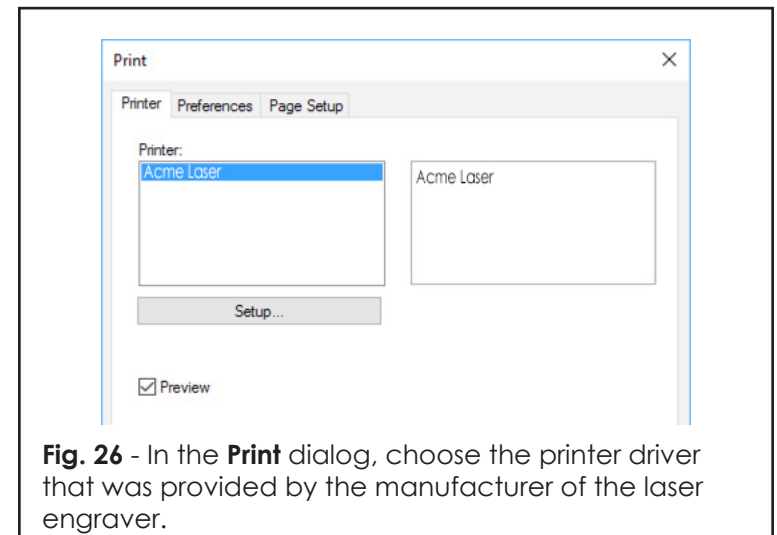

Fig. 26 - In the **Print** dialog, choose the printer driver that was provided by the manufacturer of the laser engraver.
18. Tick the **Preview** checkbox (Fig. 26).